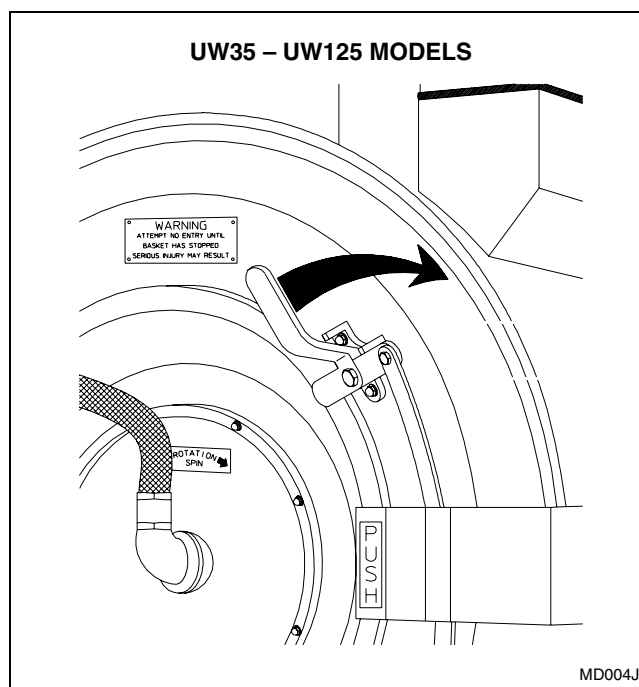

Figure 8
3. On UW35 – UW125 models, use right hand to turn door handle clockwise and swing the door left to open. Refer to *Figure 8*.